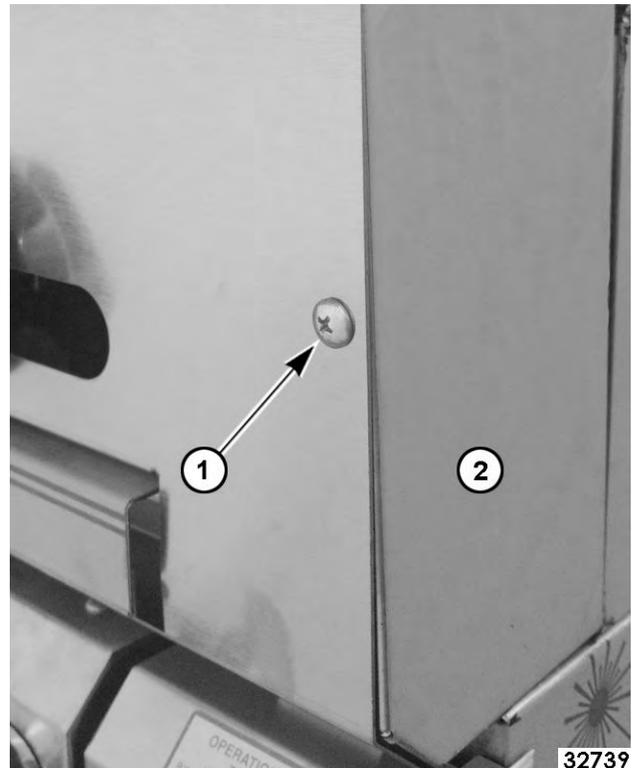

Fig. 7
3. Remove drive screws (1, Fig. 7) on both sides securing manifold cover in place and remove cover.
4. Remove end caps (2, Fig. 7), if applicable.